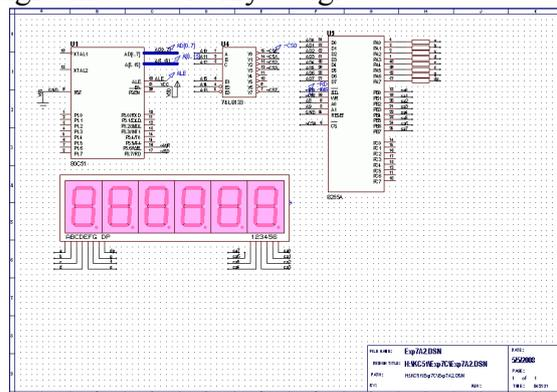

Fig. 5. Experimental Circuit Exp7C.DSN in ISIS.
- 3- Start **Proteus7.6Portable→ISIS** in windows and use **File→Load design** to open the file-browser, navigate to **Exp8C** folder, and load **Exp8C.DSN** file to ISIS. You will get the design window seen in Fig.5.